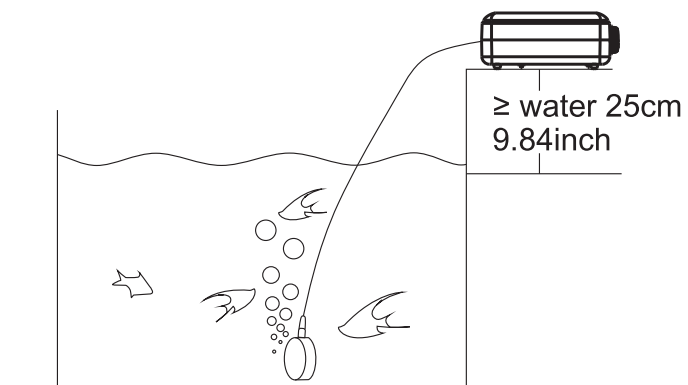

Figure 4
- ④ Place the air pump at a height of 25cm (9.8 inches) above the water surface to prevent water from splashing directly onto the pump. When placed in this manner, a check valve (as shown in Figure 4) is not required.